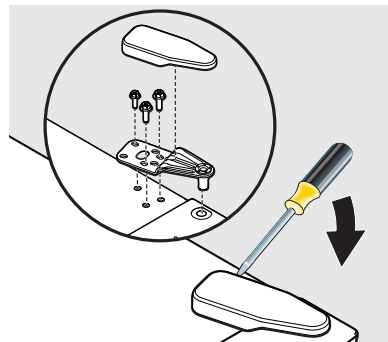

Figure 1
1. Gently pry the hinge cover upward with a flat head screwdriver. Remove the 3 screws from the top hinge using a Phillips screwdriver or 5/16" wrench. Set the hinge and screws aside (see Figure 1).